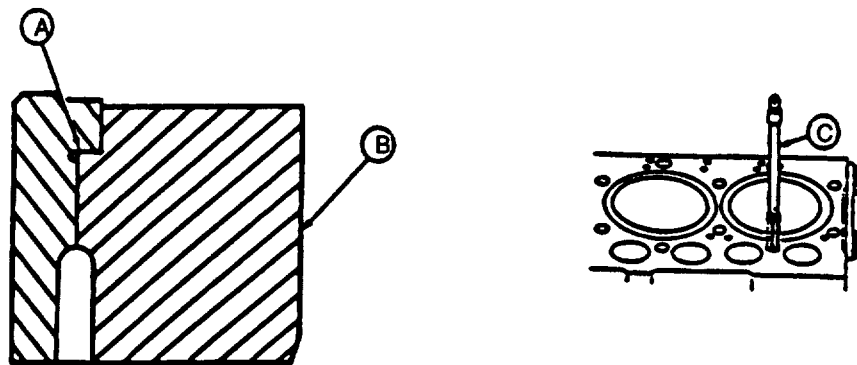

FIGURE 3-137. Inspecting Cylinder Block
Do not file liner support flange excessively. Excess filing can damage liner support flange and allow an improper liner fit. Thoroughly clean all filings from cylinder block (B, FIGURE 3-137).
- (6) Be sure liner support flange (A, FIGURE 3-137) is free of any burrs. If burrs are present, use a small half-moon file and lightly file (in a circular motion) burr off at approximately a 60 degree angle. Do not let file hit top of cylinder block while filing.
- (7) Carefully inspect cylinder block for cracks or damage. Replace block if there is evidence of physical damage.
- (8) When determined that cylinder block is serviceable, clean out threads for cylinder head capscrews in top deck of cylinder block using 1/2-13 UNC-2A x 4.00 inches (101.6 mm) long tap (C). Use compressed air to remove any debris or fluid which may be present in the tapped holes after cleaning.